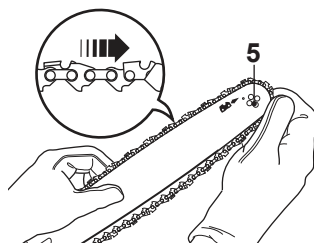

Fig. 9
- > Slide the chain into the groove around the guide bar (Fig. 9).